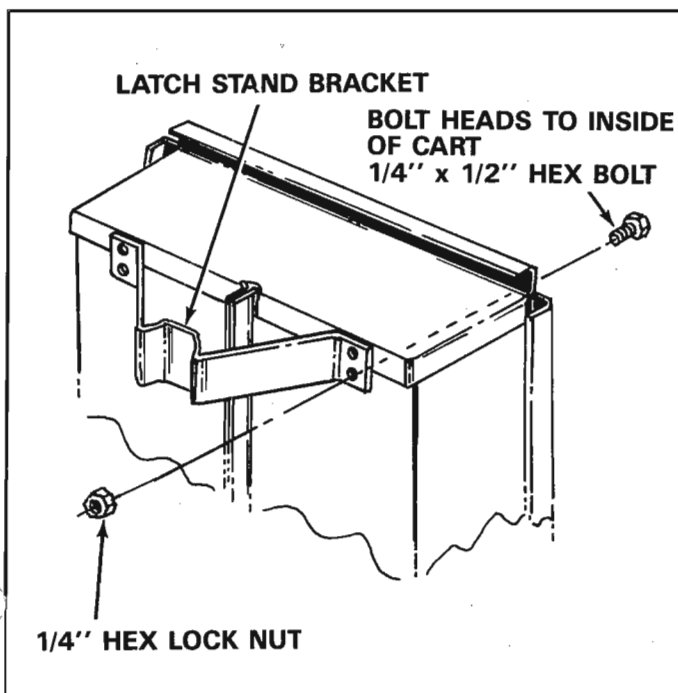

FIGURE 7
- Assemble latch stand bracket using four 1/4" x 1/2" hex bolts and 1/4" hex lock nuts. See figure 7.